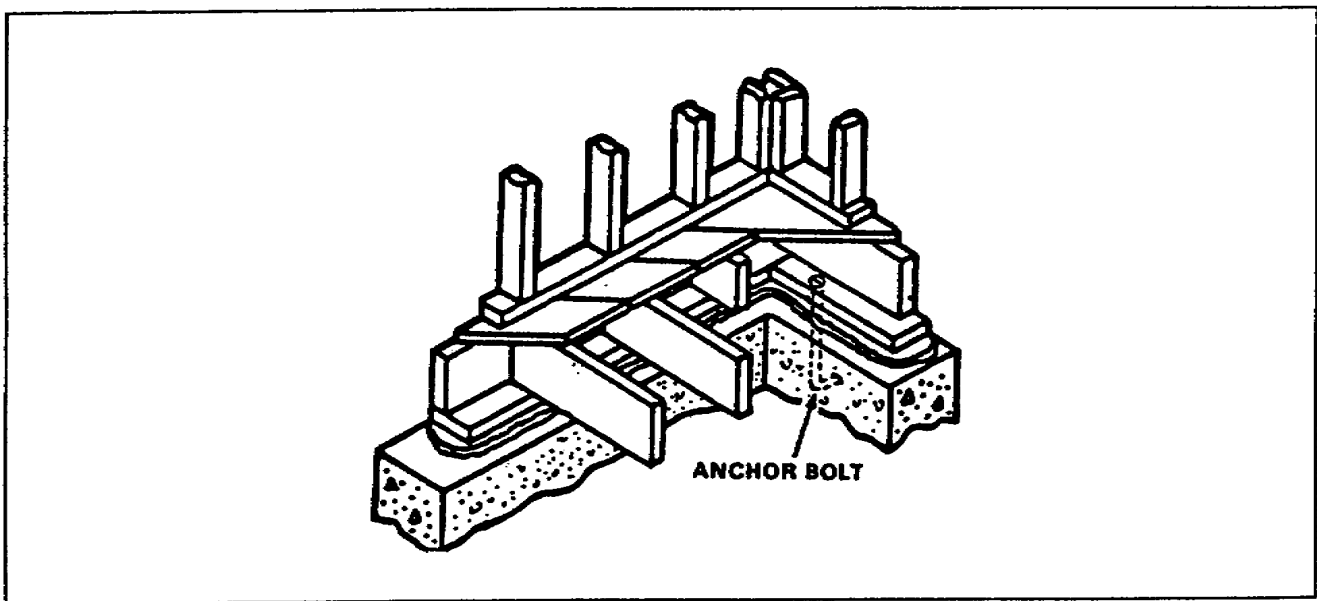

Figure 1-43. Anchor bolt installation
a. Anchor Bolts. Anchor bolts (Figure 1-43) are used to fasten sills to masonry foundations. These bolts are used to fasten the sill to the footers. Anchor bolts are installed when placing the footer while the concrete is still wet.